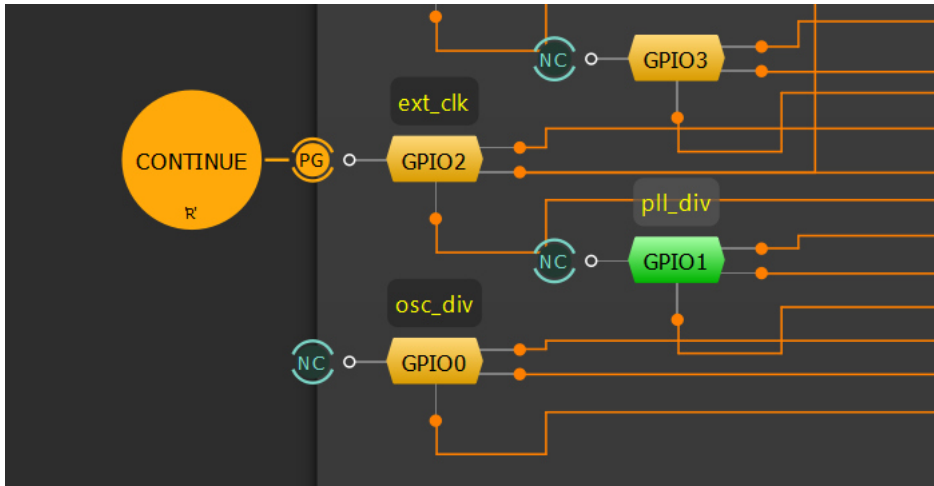

Figure 3: GPIO Connection
- Connect the Development Board and attach it to Adaptor Board with the SLG47910 part in the socket on it. Click on the Debug button on the ForgeFPGA Workshop studio and select Emulation (Figure 3).